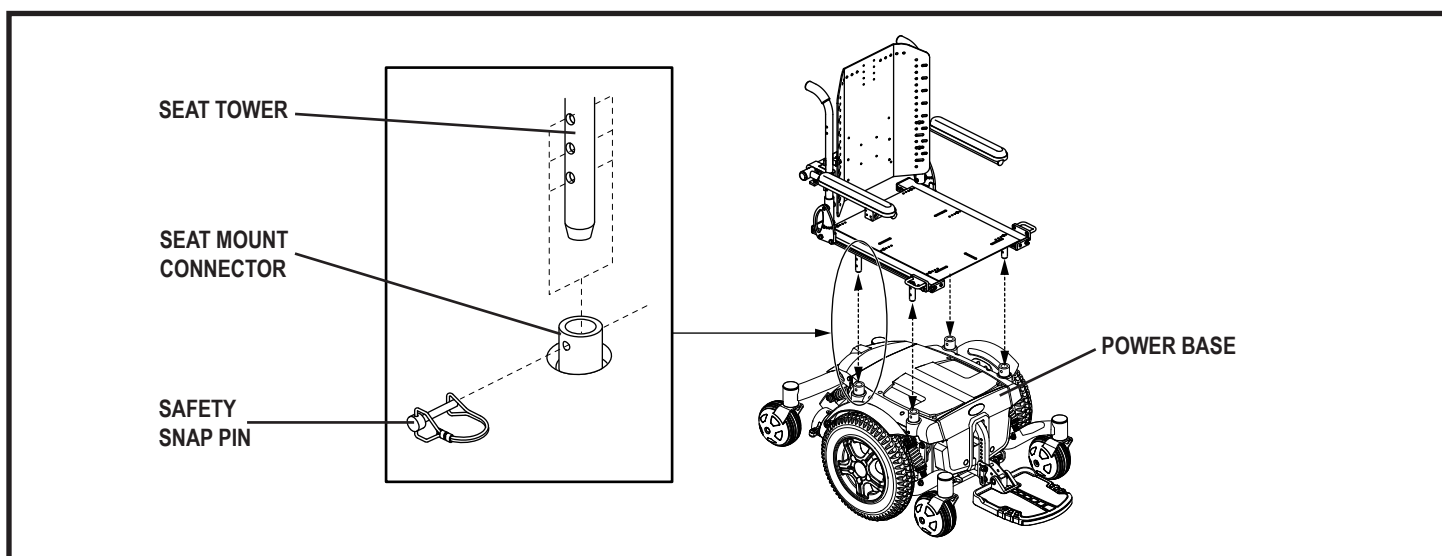

Figure 3. Seat Installation/Removal
1. Remove the safety snap pins from all of the seat mount connectors. **See figure 3.**
2. Lower the seat so that the four seat towers are inserted into the four seat mount connectors. **See figure 3.**